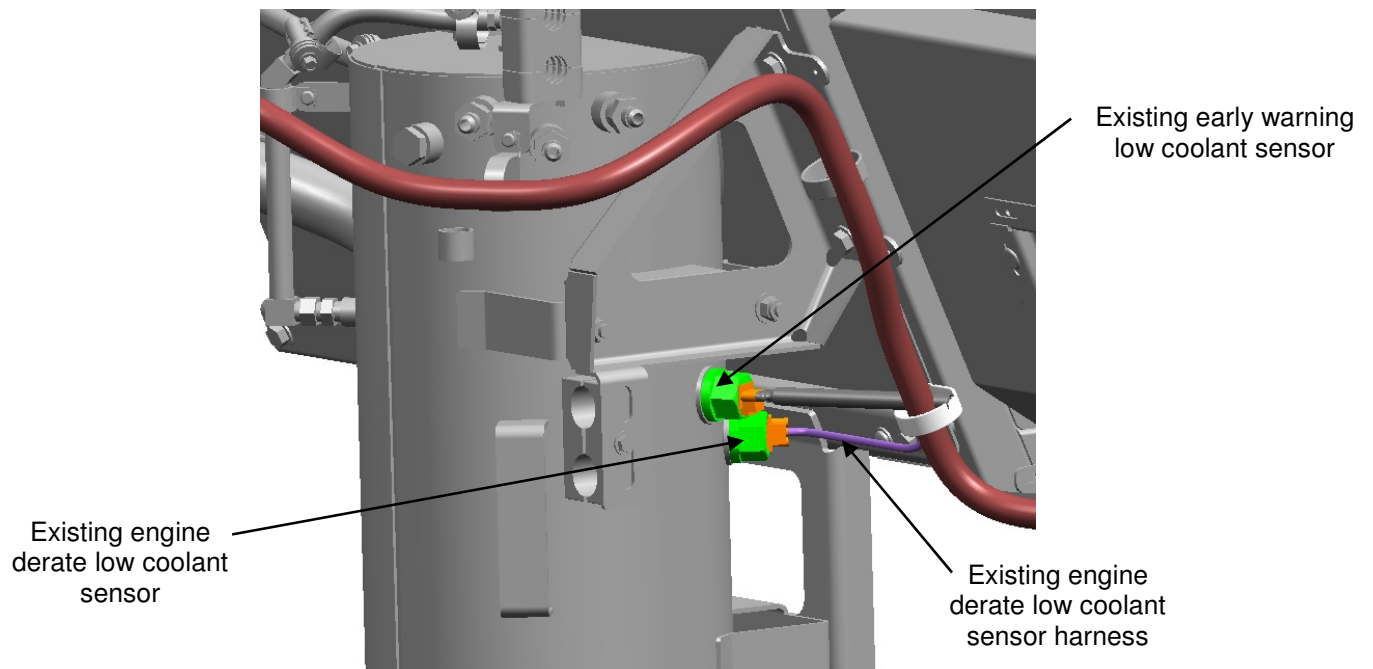

Figure 2: Low Coolant Sensor Locations
4. Open the rear interior engine access door and locate the surge tank low coolant derate sensor harness (lower sensor is derate). Disconnect the existing low coolant derate sensor harness, see Figure 2.